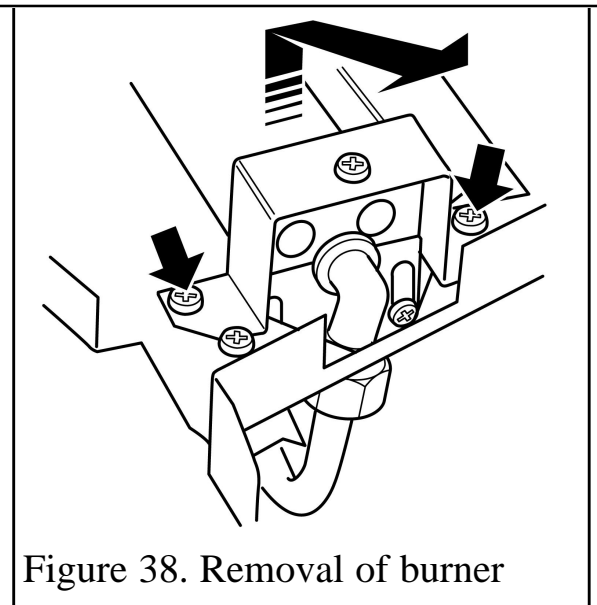

Figure 38. Removal of burner
(See figure 38).
3. Remove the two screws from the burner clamping plate (See figure 38).